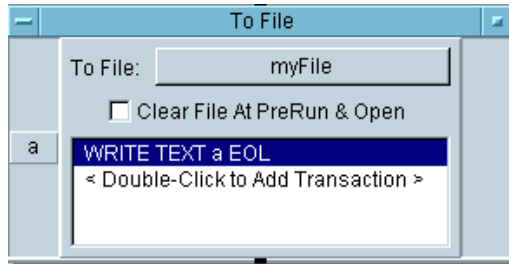
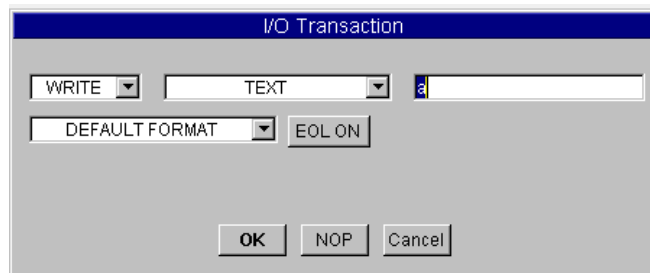

Figure 5-3. The To File Object
Figure 5-4. An I/O Transaction Dialog Box
I/O transactions are used by VEE to communicate with instruments, files, strings, the operating system, interfaces, other programs, Rocky Mountain Basic, and printers. For example, look at the To File object in Figure 5-3.
The To File object shown in Figure 5-3 sends data to the specified file myFile. It can include inputs, called transactions, to accept data from a program. For example, this To File object includes the transaction WRITE TEXT a EOL. When you double-click the transaction, an I/O Transaction dialog box appears as shown in Figure 5-4, which configures the specific transaction statement.
2. Double-click in the transaction area to display the `I/O Transaction` dialog box. (Refer to Figure 5-3 and Figure 5-4, if necessary.)